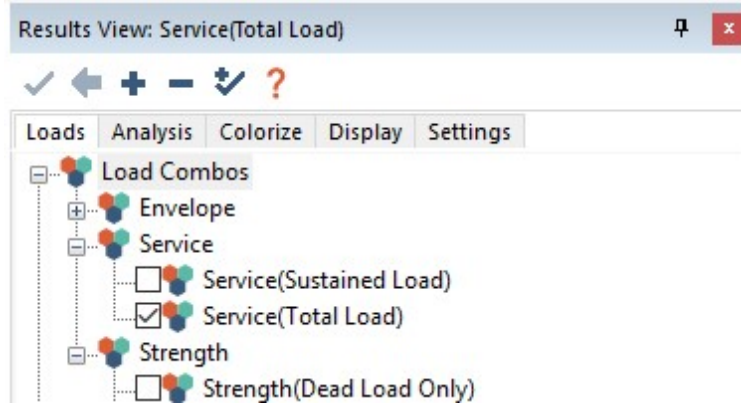

Figure 4.2-6 - Result Display Settings Dialogue Box
- For serviceability it is important to make a check for deflections in each direction. Select **Service (Total Load)** from the *Loads* tab of the *Results View* panel as shown in **Figure 4.2-6**. Change to the *Display* tab of the *Results Browser*.